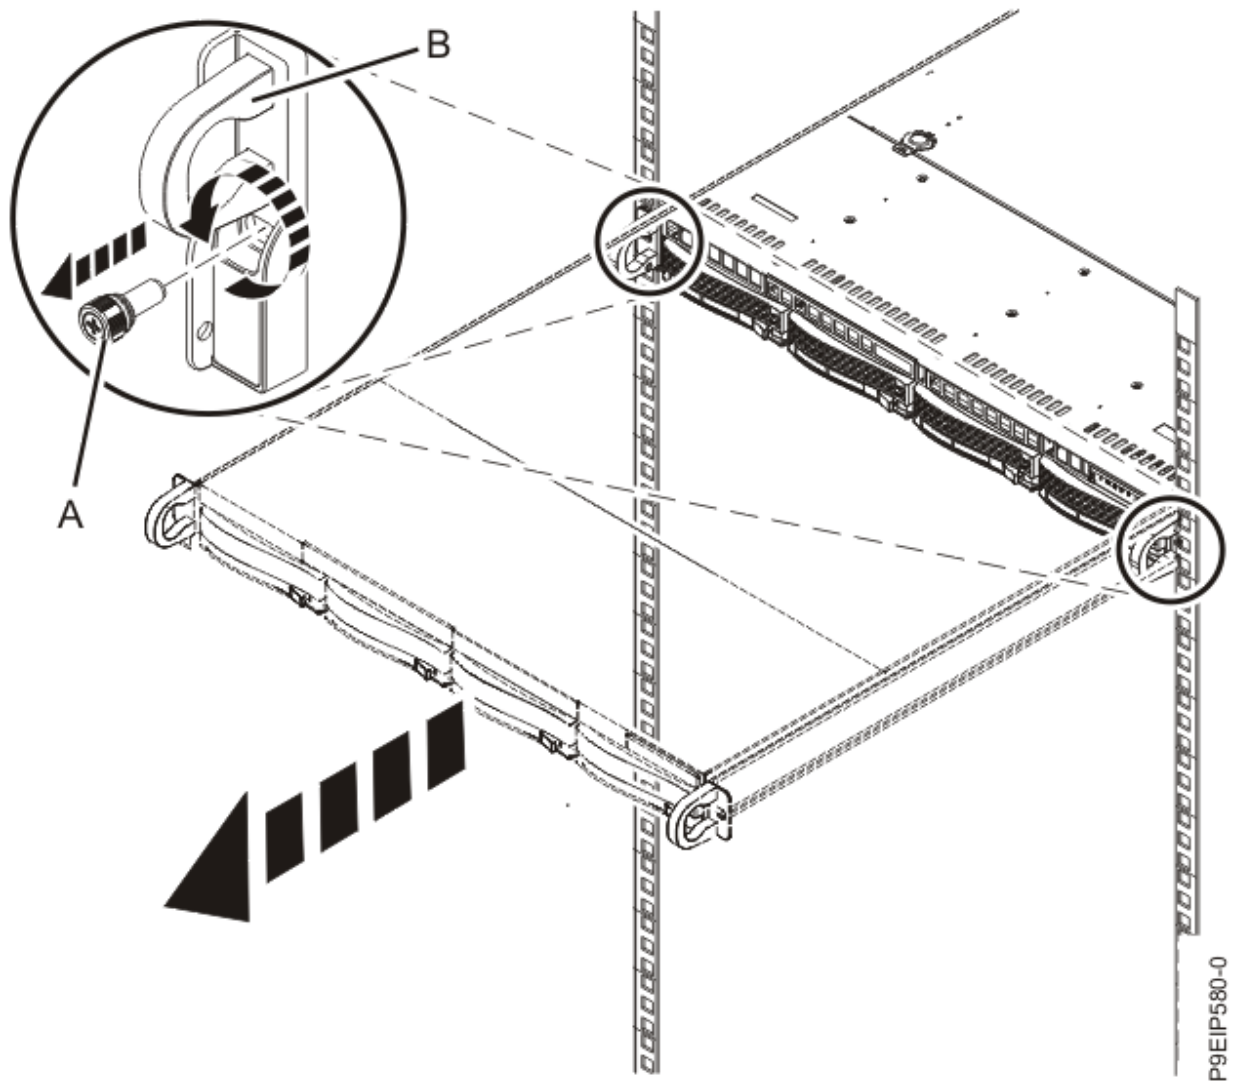

Figure 55. Removing the front screws and removing the system from the rack
2. Remove the front screws that secure the system to the rack from both sides of the system as shown in Figure 55 on page 107.